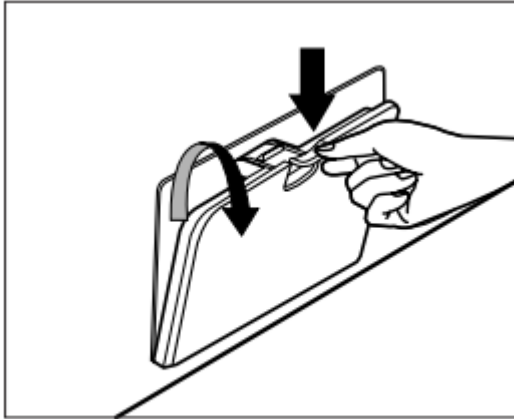

Fig.13
- Open the service flap, (bottom right corner) (Fig.13)